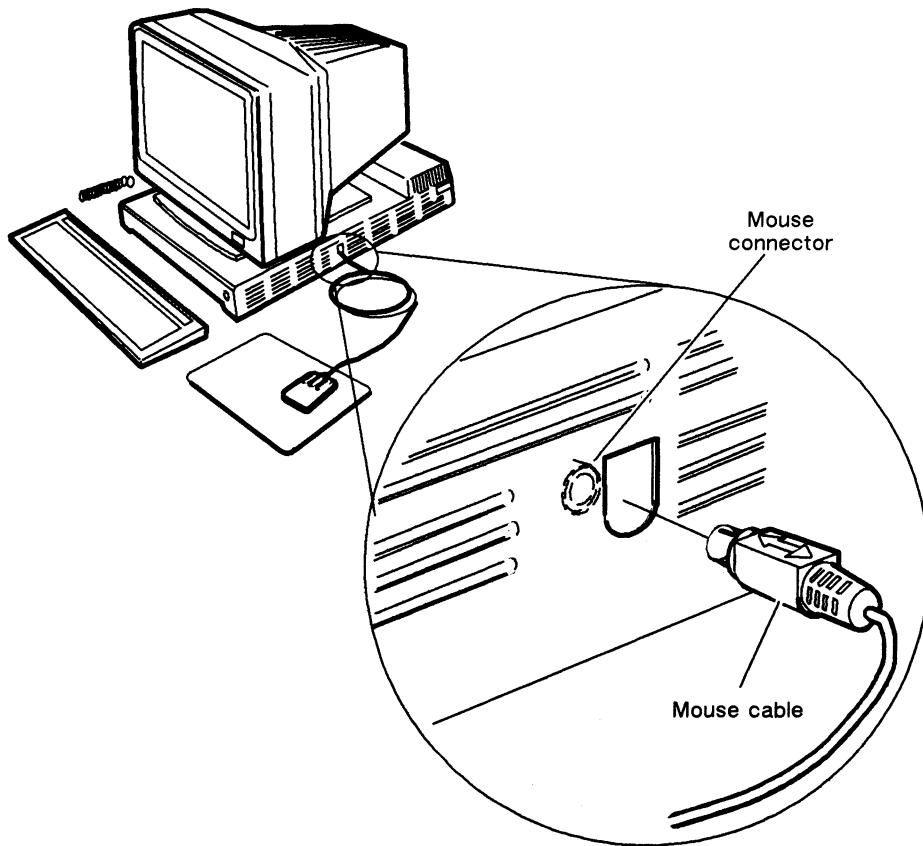

Figure 2-7 Plugging the Mouse Cable into the Mouse Connector
5. Plug the mouse cable into the mouse connector on the side of the computer unit as shown in Figure 2-7.